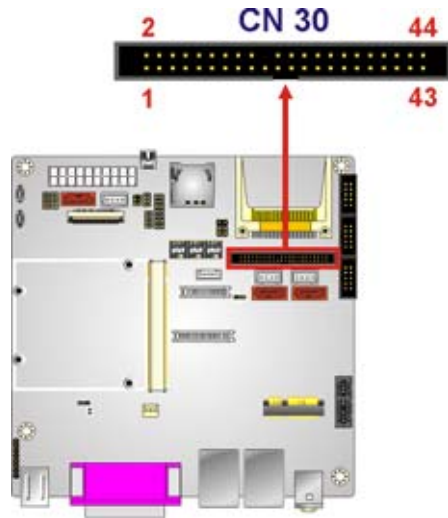

Figure 4-8: IDE Connector Locations
- CN Location:** See Figure 4-8